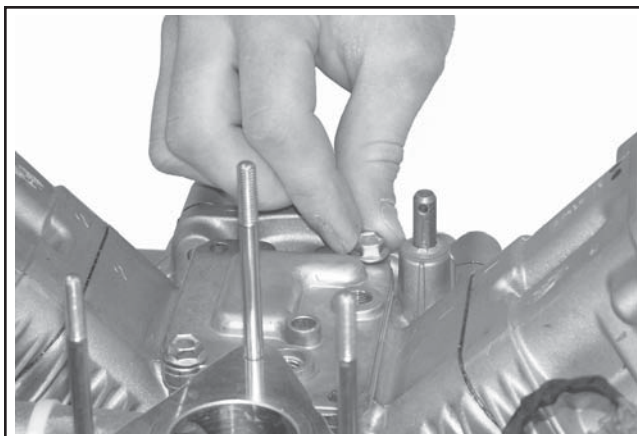

Figure 10-50. Installing Screws (Locations 3 and 4).
3. Position the breather gasket and cover on the crankcase. Install the first two hex flange screws in locations 3 and 4 shown in Figure 10-50. Finger tighten at this time.